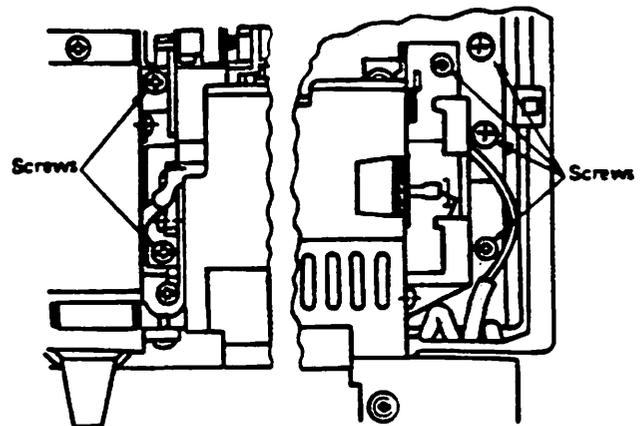

Figure 2-20
6. Remove the two screws from the brass-colored tabs at the rear end of the fuser assembly (Figure 2-20).